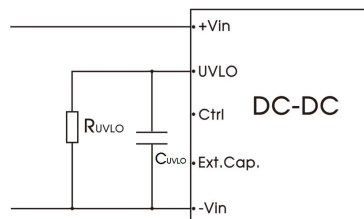

Fig.9
3. The UVLO pin can adjust the point of input under-voltage protection by the external resistance RUVLO. Please refer to Fig.9 for the value of RUVLO, if the pin is left open, the under-voltage protection point is 11V.
3. Resistor RUVLO is used to adjust the input under-voltage protection point. Refer to Figure 9 for the value.